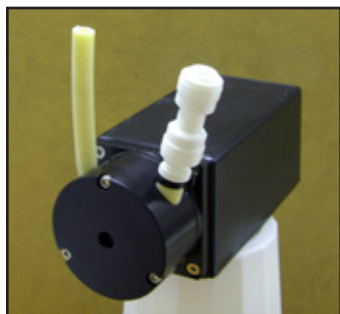

Fig. B-1
1. If you are just inspecting the pump head, it is not absolutely necessary to disconnect the two tubings from the head, but it might make this task easier (Fig. B-1).
10. Replace the union connector on the output port stud. The final assembly should look like Fig. B-1.